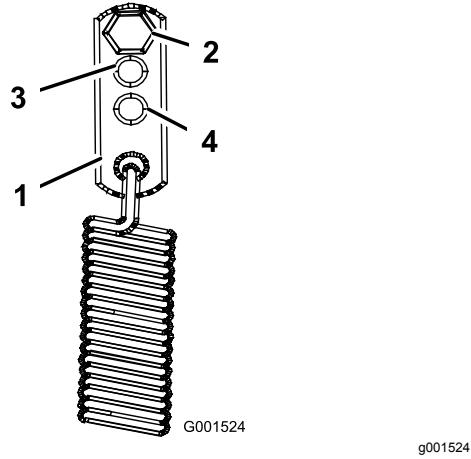

Figure 42
3. For a heavier drive setting, relocate the spring anchor links to either the medium or heavy duty positions (Figure 42). The spring anchor links are attached to the upper rear corner of the hydraulic drive shields on the left and right sides of the machine.